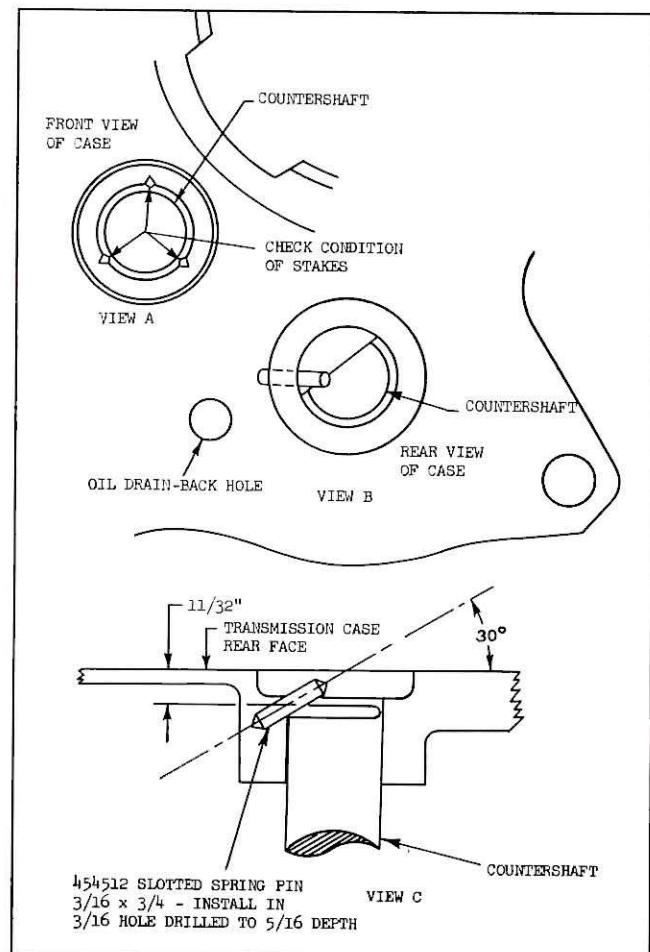

Fig. 15—Three-Speed Transmission Countershaft
2. If countershaft has moved rearward, tap shaft in position against stakes at front of case bore (View A, Figure 15). Amount of force necessary to seat shaft will indicate whether or not
bore has opened up to point where an effective oil seal cannot be maintained. If press fit has been lost, the transmission case will have to be replaced. Shaft should recess in case approximately 11/32" (View C, Figure 15). Condition of stakes at front of case should be checked and shaft re-staked if necessary.
3. With shaft fully seated in case, drill 3/16" hole in case at approximately 30° angle in shaft bore just above step in shaft, so that when pin is installed, it will prevent rotation and rearward movement of the countershaft. Hole should be drilled to a depth of 5/16" (Views B and C, Figure 15).